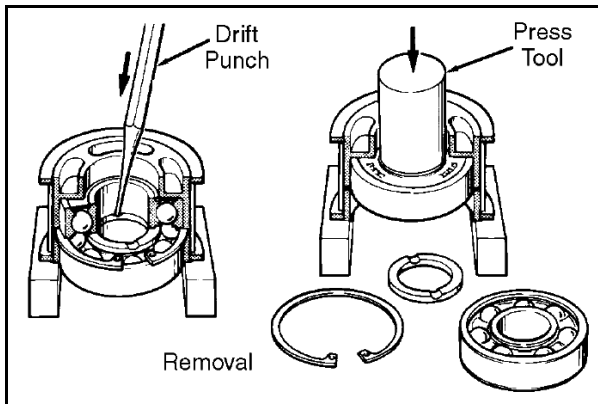

Figure 13C-9. Drift Punch
4. Using a drift punch, drive the outer bearing from the drive gear (Figure 13C-9).